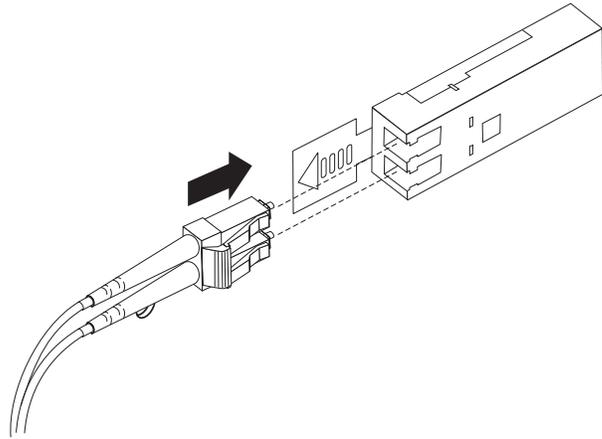

Figure 31. Inserting an LC-LC fibre-channel cable into an SFP module
4. Carefully insert this end of the LC-LC cable into an SFP module that is installed in the DS4700. The cable connector is keyed to ensure it is inserted into the SFP module correctly. Holding the connector, push in the cable until it clicks into place, as shown in Figure 31.